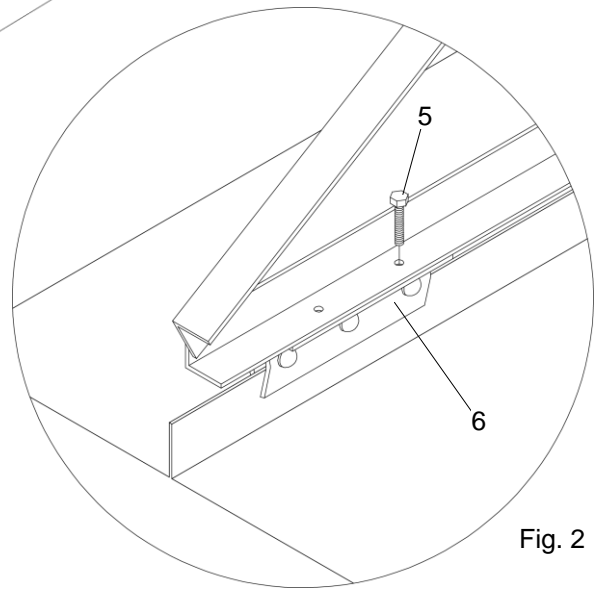

Fig. 2
4. The supporting frames of the installation racks (accessories, order separately) are fixed at the sheet fold clamps with screws M10 (5) and Nuts (6) (see also Fig. 2).